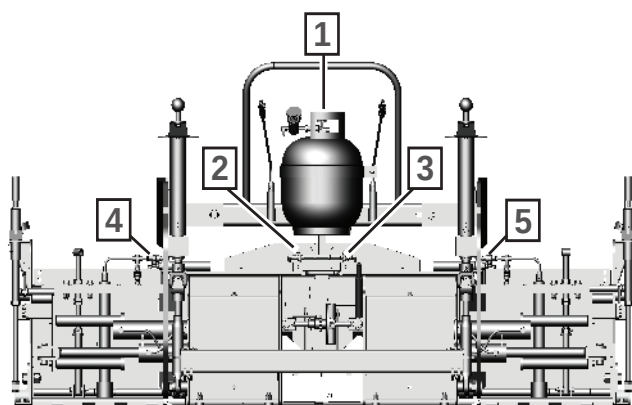

Figure 4-32. Propane Valve Order
IT IS IMPORTANT TO OPEN PROPANE VALVES IN THE ORDER SHOWN BELOW. (Figures 4-32 and 4-34)
1. Ensure ALL propane heat valves are closed by turning valves clockwise (propane tank, main burner valves, main ignitor valve, extension ignitor valves). (Figures 4-32 and 4-34)
2. When the flames extinguish, TURN OFF ALL burner valves clockwise to the OFF position. (**Figures 4-32 through 4-34**)